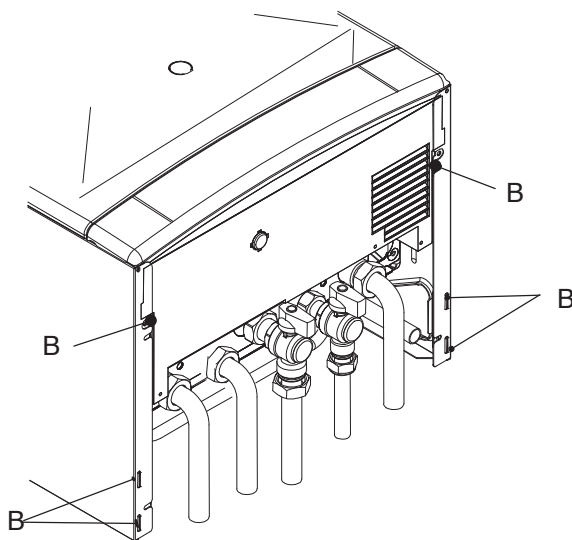

Fig. 8.2
- Loosen the screws B. Bring the bottom of the panels away from the boiler and lift them, freeing them from the top hooks (Fig. 8.2).